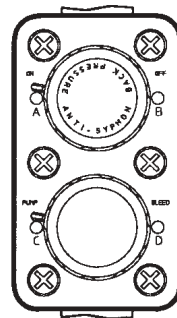

Figure 3.1
3.1 Controls and Operation (See Figure 3.1)
Except for alarm conditions, the LCD display (Figure 3.1) always presents either the present operating condition or a prompt that must be answered in order to commence operation.